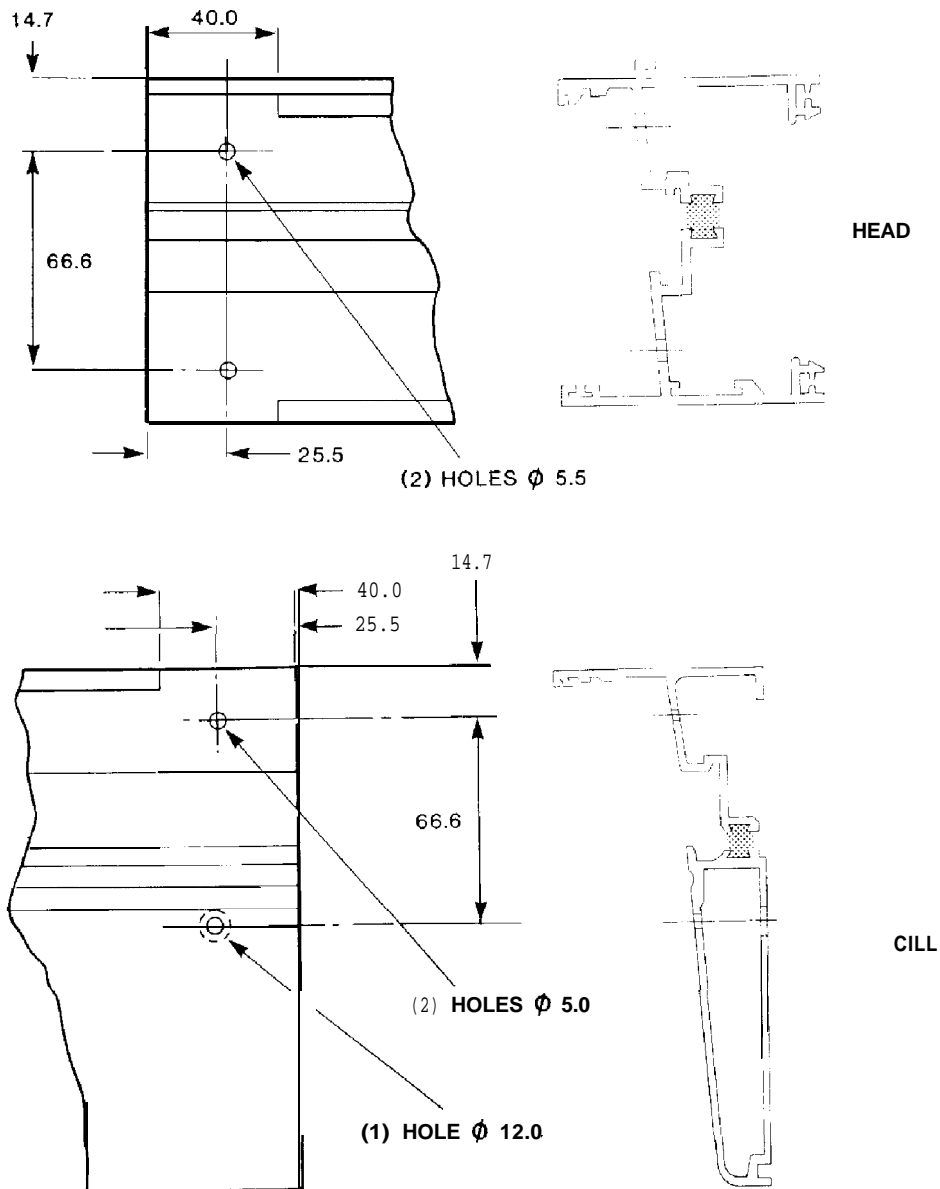

Figure 4.4 · HEAD/CILL PREPARATION
6.1 Cutting Techniques (Figs. 4.4 and 4.5)
The cill and head should be square cut to the length required and prepared as shown in Fig. 4.4.
Using the cill and head cropping tool (C3137), or by careful use of hacksaw and file, cut the inside edge of both the cill and head at each end as shown in Fig. 4.4. This is to accept the jambs.